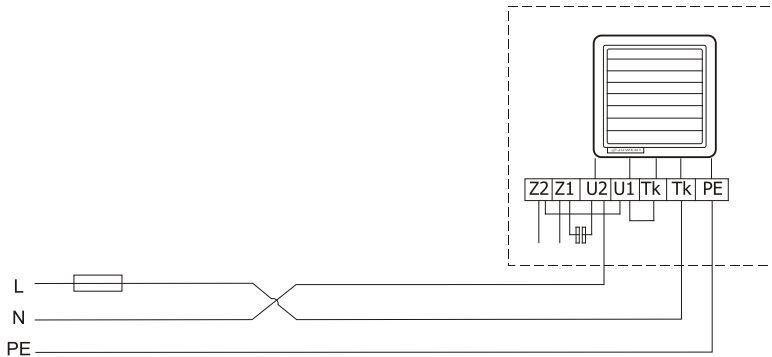

Fig. 2 Wiring diagram for unit heater without controls
**Example control wiring diagrams for unit heaters with single-phase motors are shown in Figures 2 through 6.**